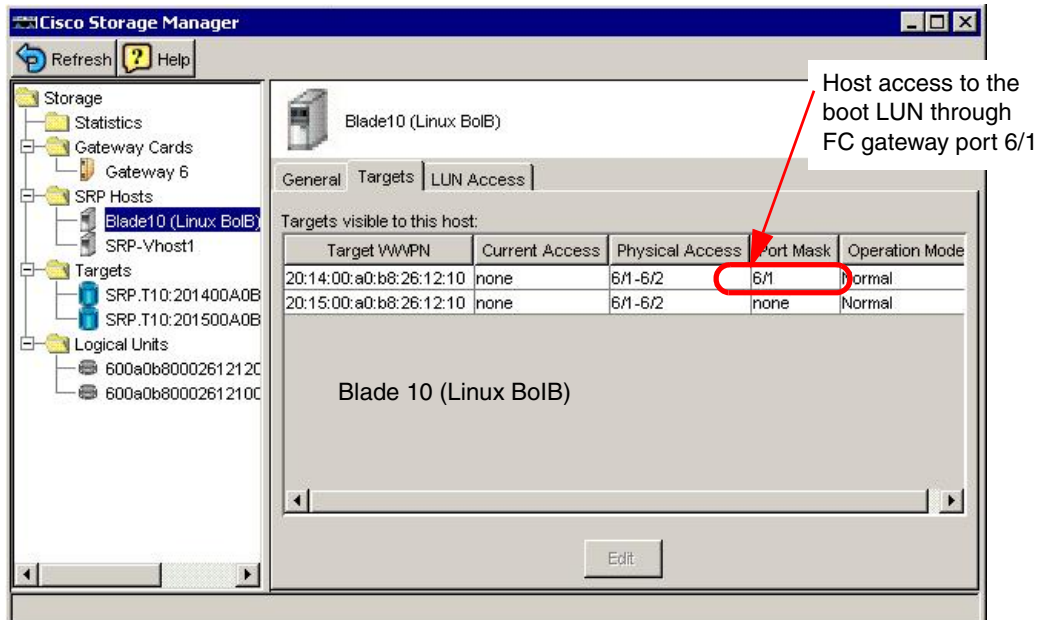

Figure 6-17 Port masking configuration view
- Figure 6-17 shows that the SRP host has access only to the boot LUN through the SFS3012-1 port 6/1.